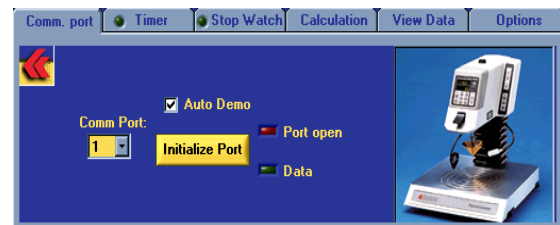

Figure 4: Communication Tab
4. **Communication Port Tab.** Select and initialize the communication port to be used for the Penetrometer as shown in Figure 4.